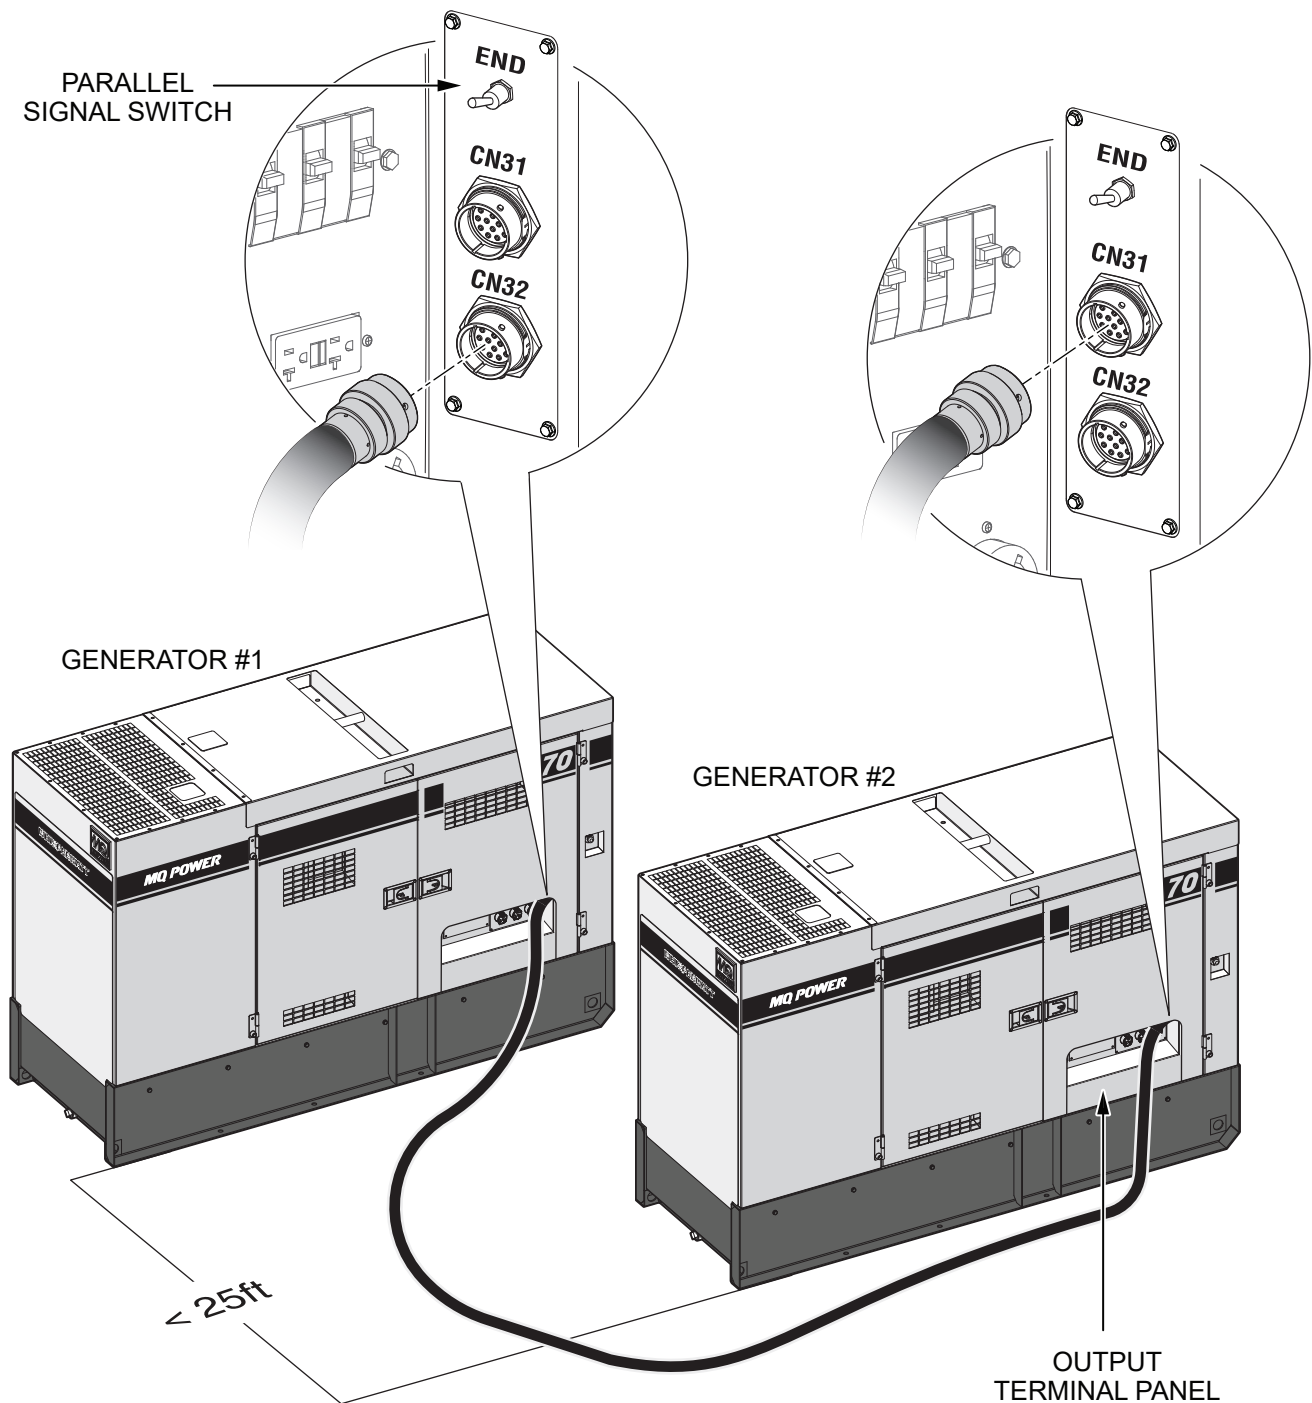

Figure 70. Communication Cable Connections (Two Generators)
1. Make sure the spacing between each generator does not exceed **25 feet (7.62 m)**. See Figure 70.
2. **On generator #1**, connect the male end of the 25-foot (7.62-meter) communication cable to the female parallel operation receptacle labeled **CN32** (Figure 70).
3. **On generator #2**, connect the female end of the communication cable to the male parallel operation receptacle labeled **CN31** (Figure 70).
4. Place the **Parallel Signal switch** on each generator in the **END** (up) position (Figure 70).